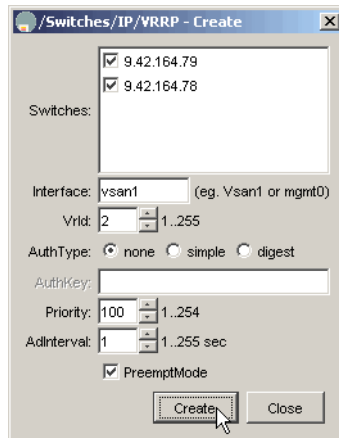

Figure 2-135 Creating VRRP group for vsan1
4. Change the interface and VRRP number to the values for the second VRRP, as shown in Figure 2-135.